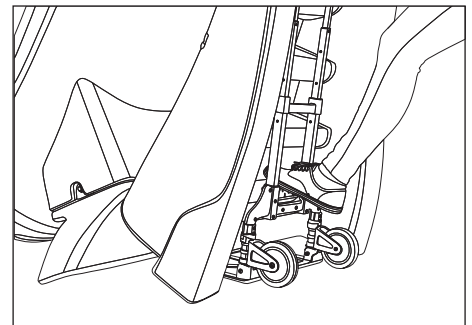

Figure 4
2. Once dolly is in place, use your foot to ensure that the dolly is firmly positioned in place (see **Figure 4**).